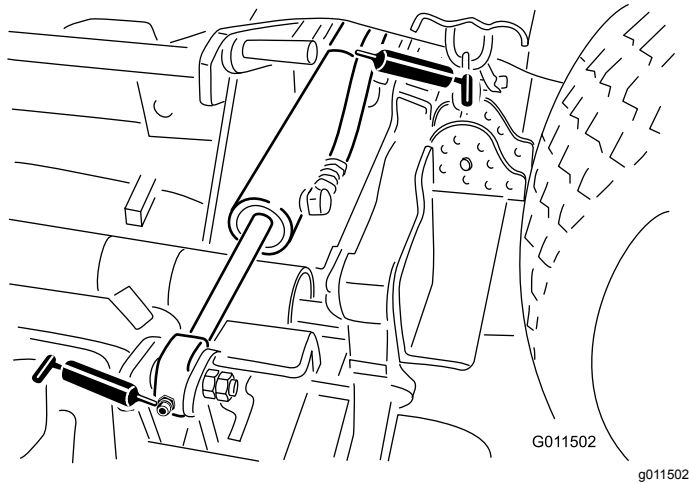

Figure 69
Wing lift cylinder (4) (Figure 69)